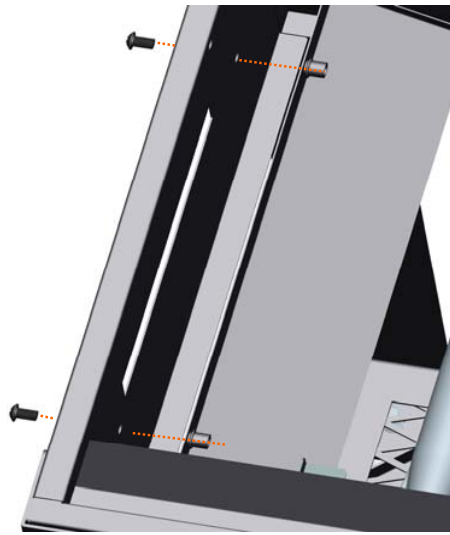

Fig.8
Place the grease pan connector inside the left end of the cabinet just below the horizontal slot and insert (2) M6x15 bolts from outside the cabinet as shown in Figure 8.